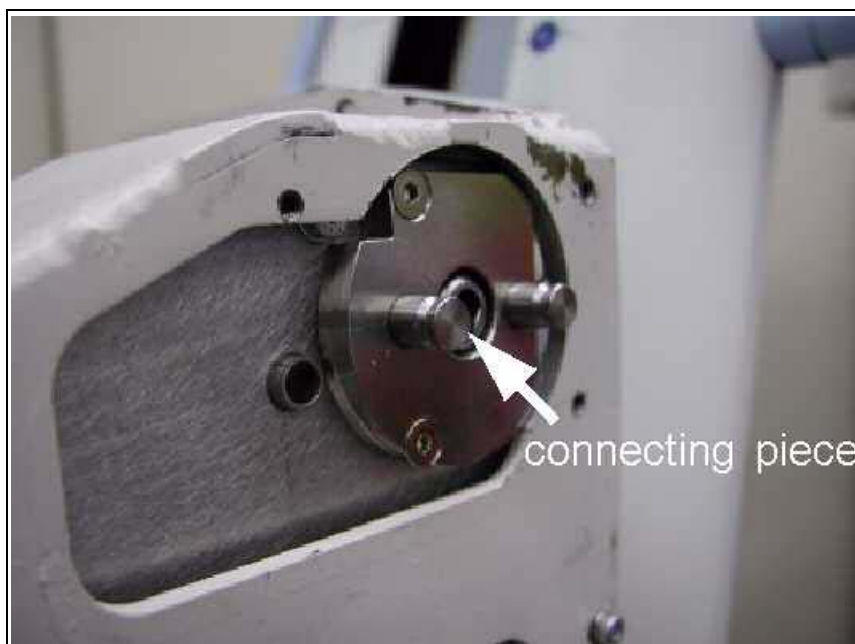

Fig. 28: Centering disk
- Fit the coupling unit onto the centering disk, the shaft must engage with the connecting piece (Fig. 28 / p. 33).